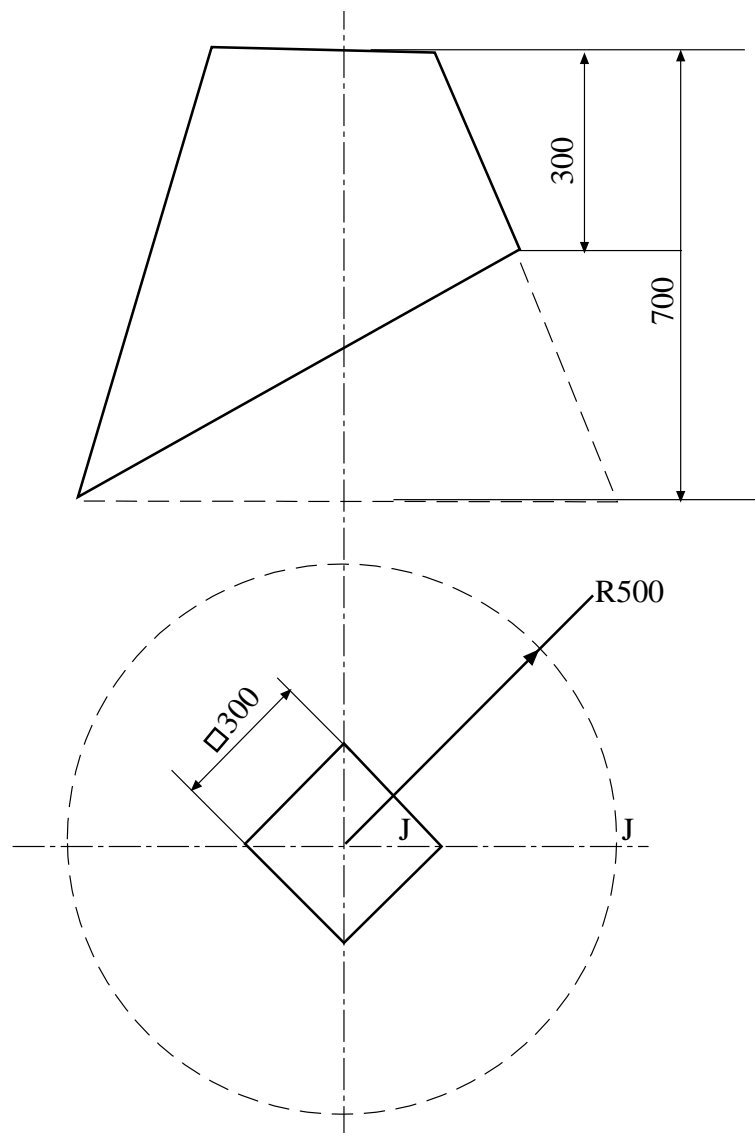

Figure 8
- 8 **Figure 8**, shows two views in first angle projection of a portion of a thin duct. The shape of the duct changes from a square of **300mm** side to a circle of **Ø 1000mm**.